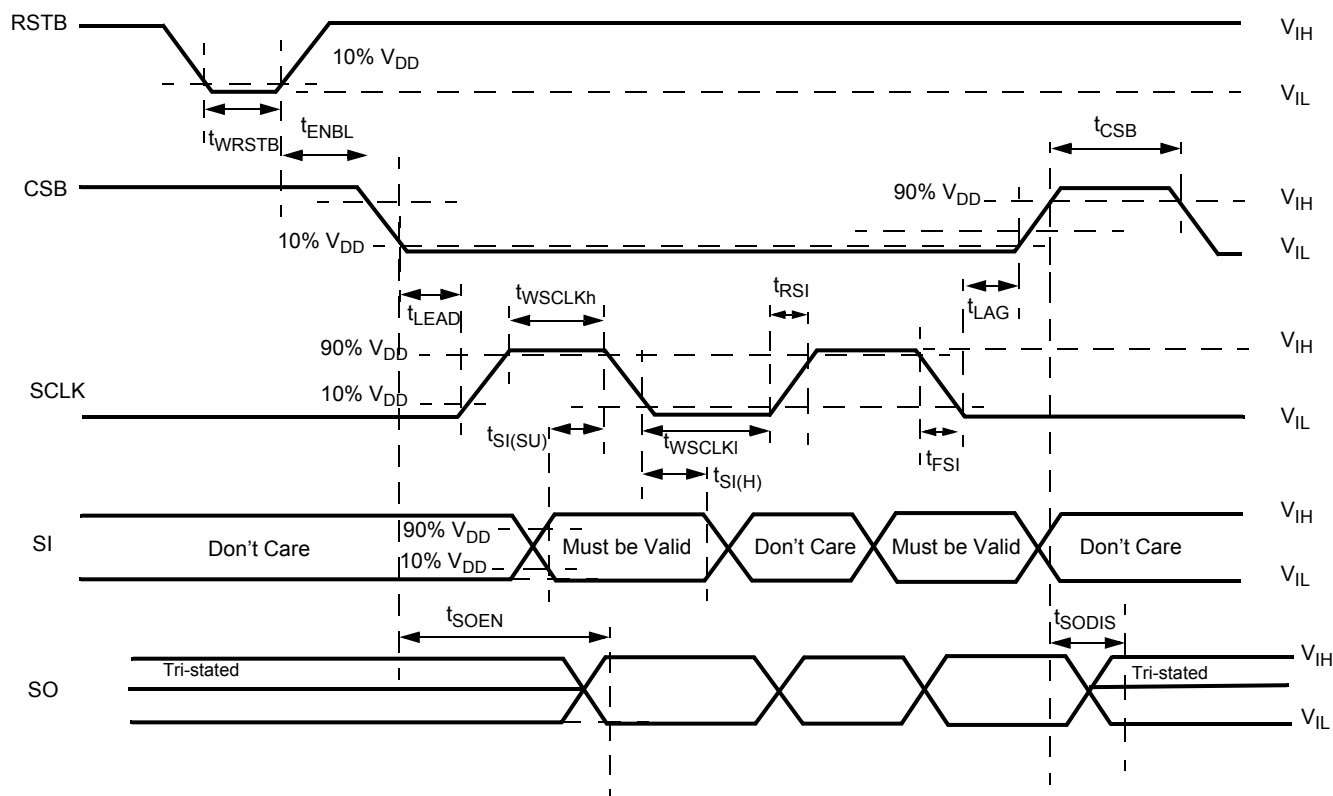
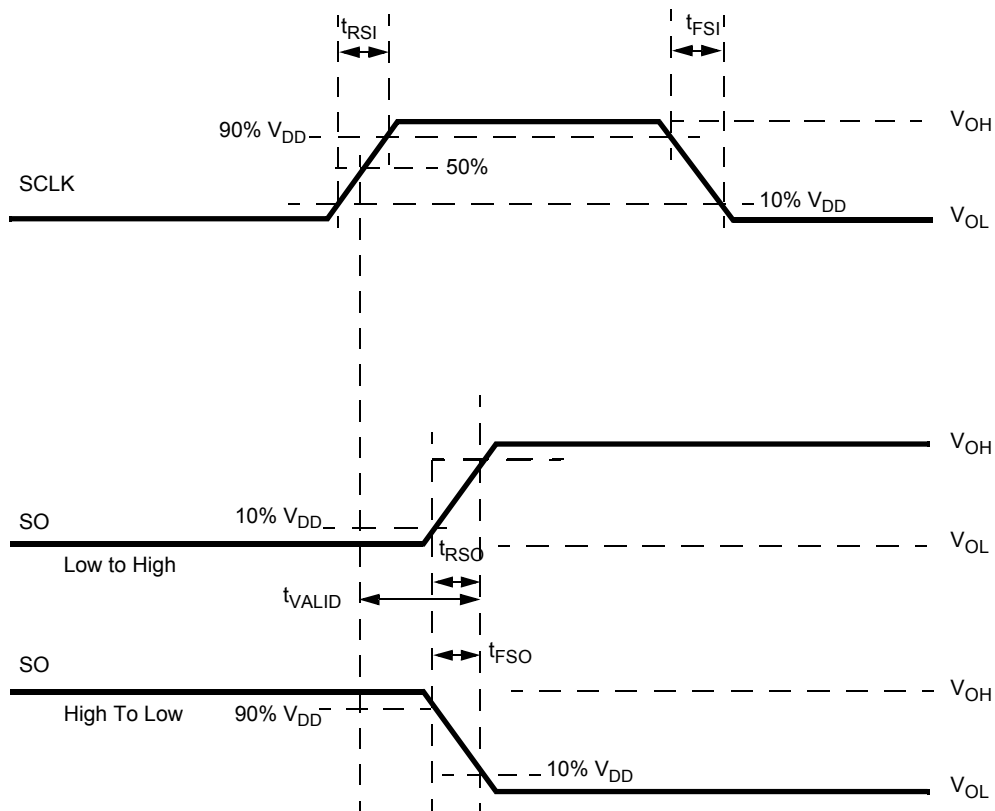

Figure 7. Timing Requirements During SPI Communication
Figure 8. Timing Diagram for Serial Output (SO) Data Communication
Data communication over the SPI port is enabled when the CSB pin is in the logic [0] state. Data from the Input Shift registers are locked in the addressed SI registers on the rising edge of CSB. The device transfers the contents of one of the eight internal registers to the SO register on the falling edge of CSB. The SO output driver is enabled when CSB is logic [0]. CSB should transition from a logic [1] to a logic [0] state only when SCLK is at logic [0] (Figure 7 and Figure 8). CSB is internally pulled up to V_{DD} through I_{UP} .
Serial input (SI) data bits are shifted in at this pin. SI data is read on the falling edge of SCLK. 16-bit data packages are required on the SI pin (see Figure 7), starting with bit D15 (MSB) and ending with D0 (LSB). All the internal device registers are addressed and controlled by a 4-bit address (D9-D12) described in Table 13. Register addresses and function attribution are described in Table 14. The SI pin is internally connected to a pull-down current source, I_{DWN} .